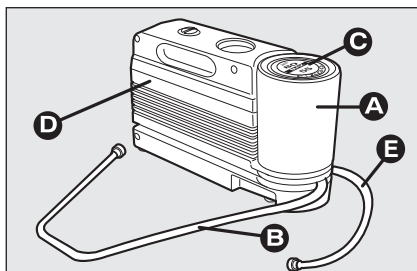

fig. 10
- ☐ a compressor **D- Fig. 10** complete with pressure gauge and connectors;